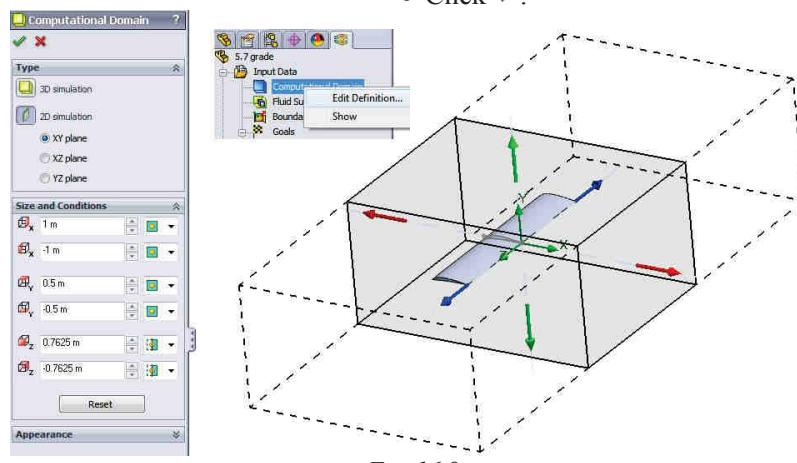

Fig. 16.9
- În arborele analizei de curgere, fig. 16.9, se va expanda ramura **Input Data**.
- Click dreapta pe icoana **Computational Domain** și selectie **Edit Definition**. Va apărea fereastra **Computational Domain**, fig. 16.9.
- In the Flow Simulation Analysis tree, fig. 16.9, expand the **Input Data** item.
- Right-click the **Computational Domain** icon and select **Edit Definition**. The **Computational Domain** window appear, fig. 16.9.
- Se vor impune valorile  $X_{\pm}=1$  m / -1 m,  $Y_{\pm}=0.5$  m / -0.5 m,  $Z_{\pm}=0.7625$  m / -0.7625 m, fig. 16.9.
- The following values will be set:  $X_{\pm}=1$  m / -1 m,  $Y_{\pm}=0.5$  m / -0.5 m,  $Z_{\pm}=0.7625$  m / -0.7625 m, fig. 16.9.